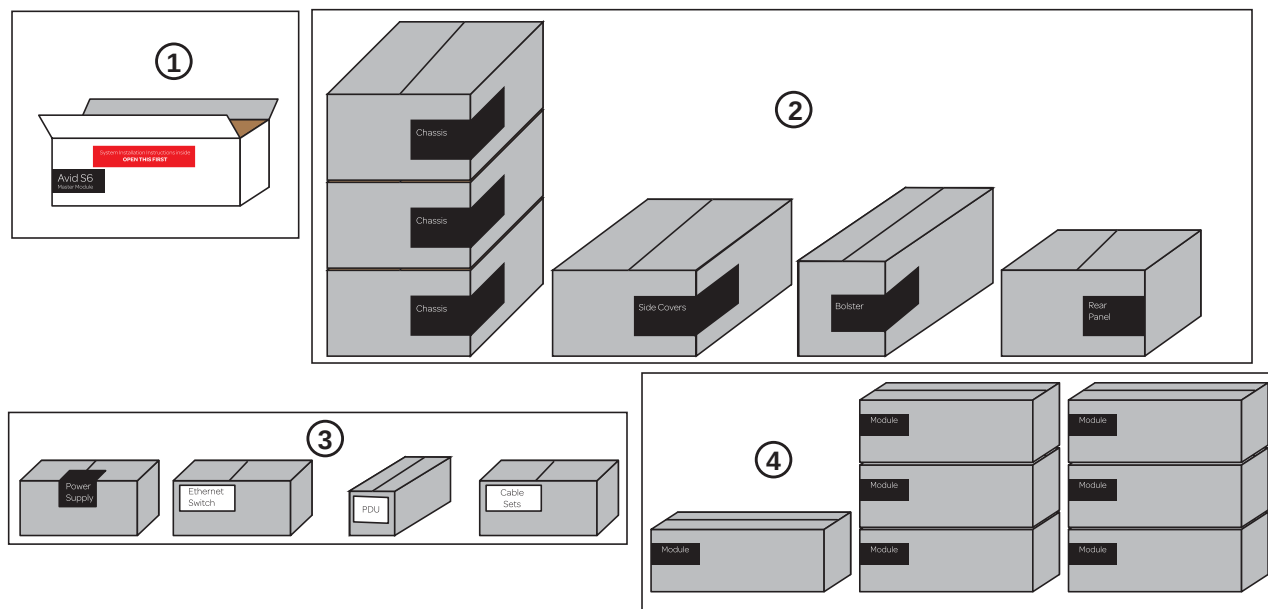

Figure 1. Packages organized before assembling an example S6 M10 16-5 system:
- Identify and organize the packages that make up your purchased system (see Figure 1) to simplify the assembly process. All required tools are in the Side Covers package (see “What’s Included” on page 2)